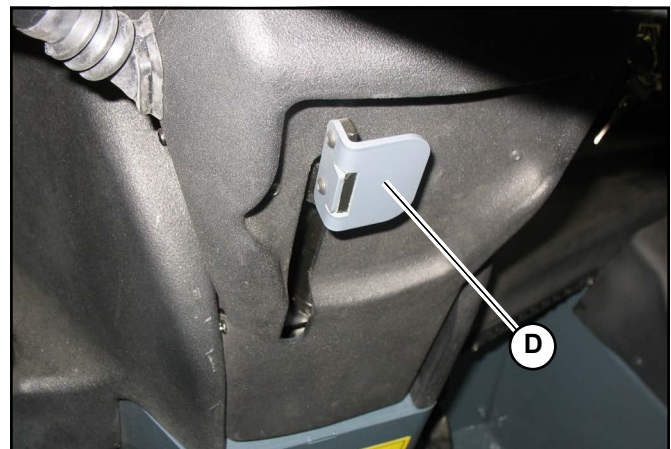

Fig. 37 – Steering Column Adjustment
1. Pull adjustment lever (D, Fig. 37), located under the steering column, downward.